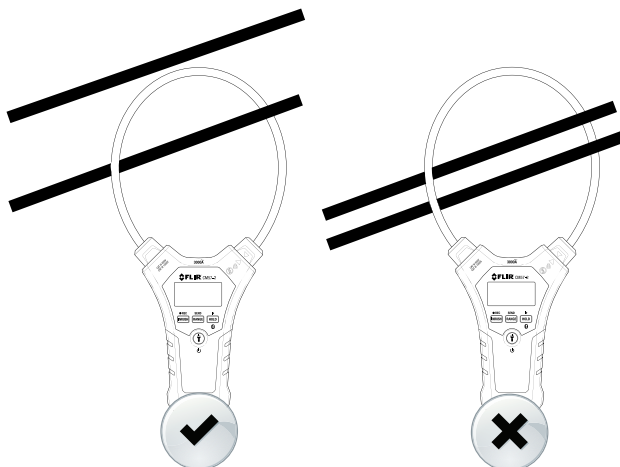

Figure 5.2 Correct (left) and incorrect (right) clamping.
3. Fully enclose (and centre) only one conductor of the device under test with the flexible clamp probe (Fig. 5.2).